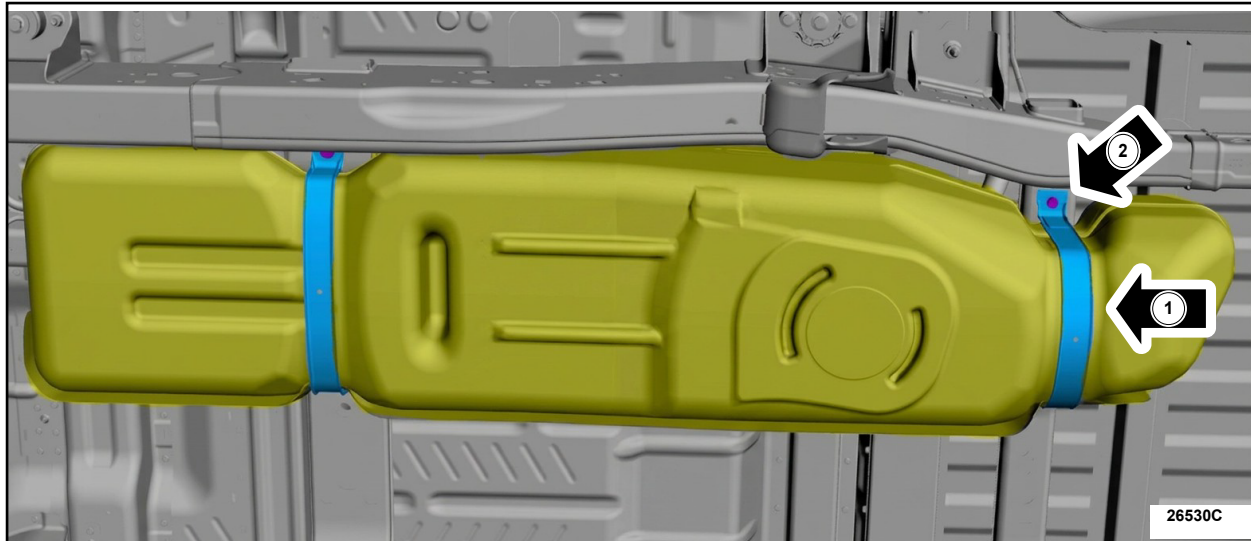

FIGURE 3
6. Visually inspect the front tank strap (1) and fastener (2). See Figure 3. Confirm the fastener is present and that it is holding the tank strap tight against the frame. If any issues are found with fastener side of the tank, contact the Special Service Support Center (SSSC) for direction. (Skid plate not shown. Skid plate removal NOT required for inspection.)